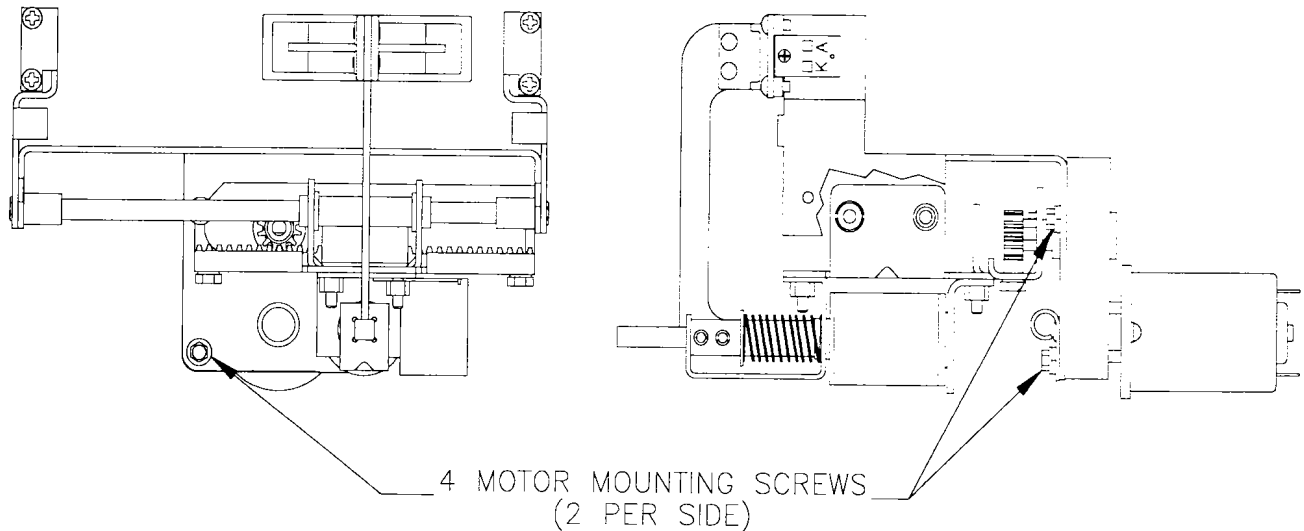

Fig. 6
- b. Remove four (4) motor mounting screws. Motor can now be removed. (See Fig. 6)